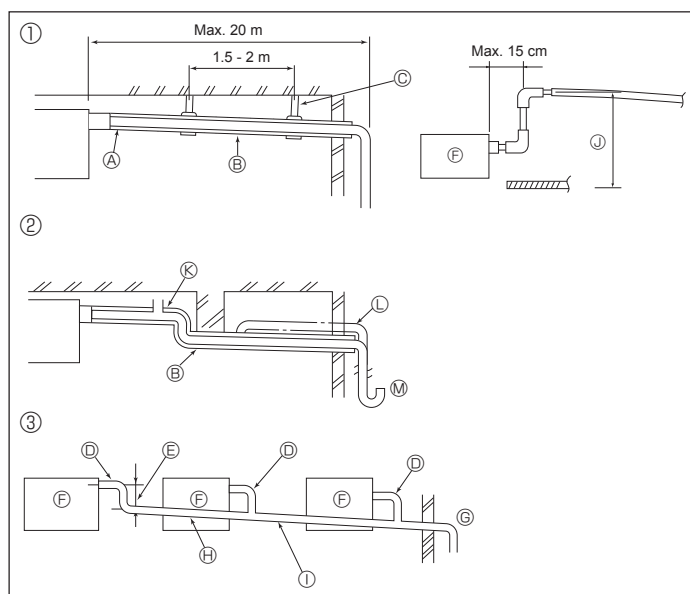

Fig. 4-4
4.5. Drainage piping work (Fig. 4-4)
- ① Correct piping
- ② Wrong piping
- It may cause overflowing of drainage. (K)
- Do not place a raised pipe on the piping. (L)
- Do not place odor traps on the piping. (M)